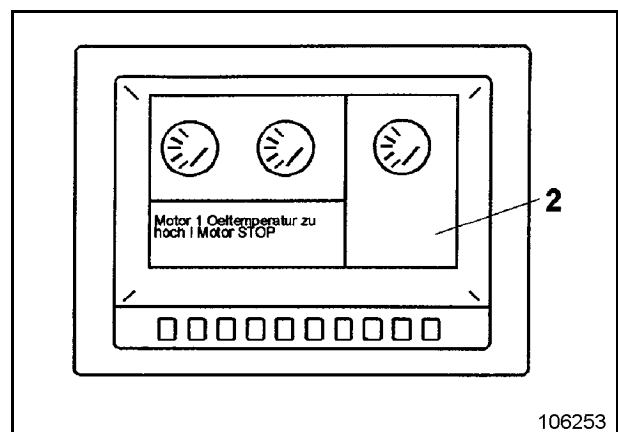

Fig. 3-96:
- The oil level is also displayed on the BCS-screen (2, Fig. 3-96:).